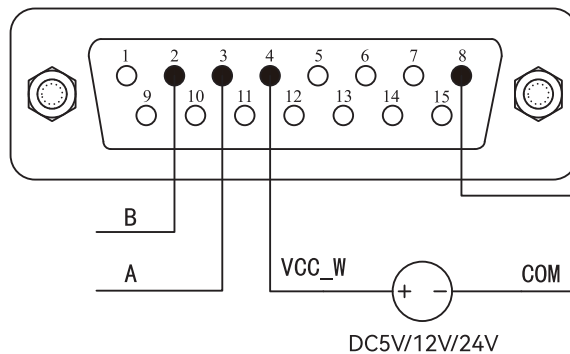
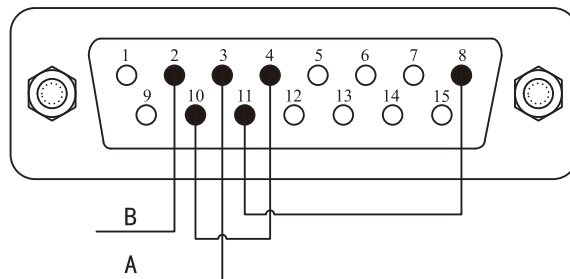

Figure 20 Communication External Power Supply Wiring Diagram
Figure 21 Communication Internal Power Supply Wiring Diagram
- With the power supply disconnected, refer to Figure 20 or Figure 21 for wiring. Then connect the DB15 interface to the back interface of the pump.